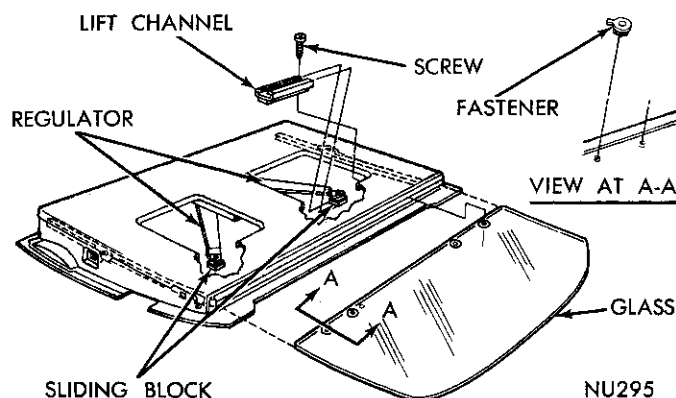

Fig. 90—Glass Replacement
- (1) Support glass at bottom and remove glass to lift bracket screws (Fig. 90).
- (2) Slide glass up and out of door.
- (3) Remove lift channel fasteners from glass (Fig. 90).
To replace the glass lift channels (Fig. 90) it is necessary to first remove the glass assembly. The channels are positioned over sliding blocks on the regulator arms.